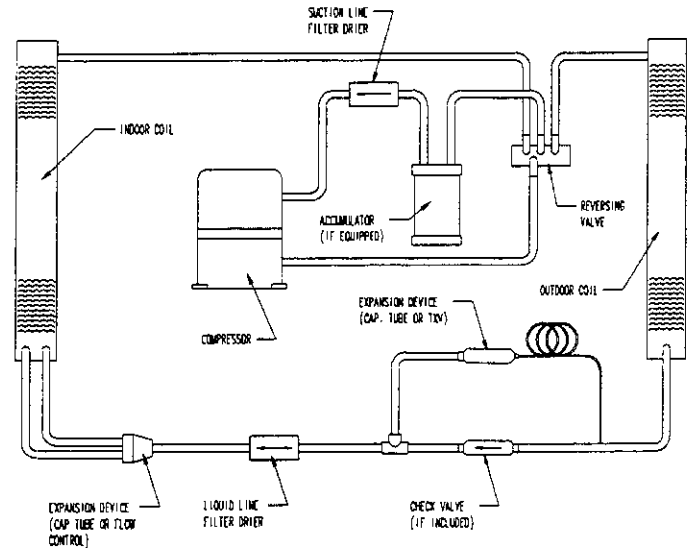

Figure 2 — Typical Self-Contained Heat Pump Filter Drier Locations
Heat pump units require a different liquid line filter-drier than air conditioners. The 5201-009 or 5201-010 bi-directional liquid line filter-drier must be used on heat pumps, and if desired, could also be used on A/C. Under no circumstances should the 5201-001 or 5201-002 directional filter-driers be used on heat pumps as shown by Figures 2 or 3.
3. Capacitor must be rewired (no capacitor change required) to function as single MFD, and no longer need "off cycle capacitance heater". (See Figure 2 or 3 on page 2.)